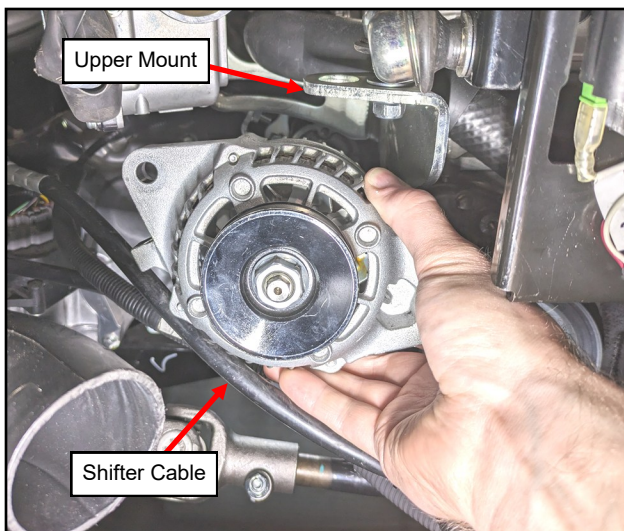

Fig. 2.14 (Remove Alternator)
2.14 Remove the two alternator mounting screws and remove the alternator per fig. 2.14. The alternator will fit between the upper mounting bracket and the transmission shifter cable and wiring harness below.